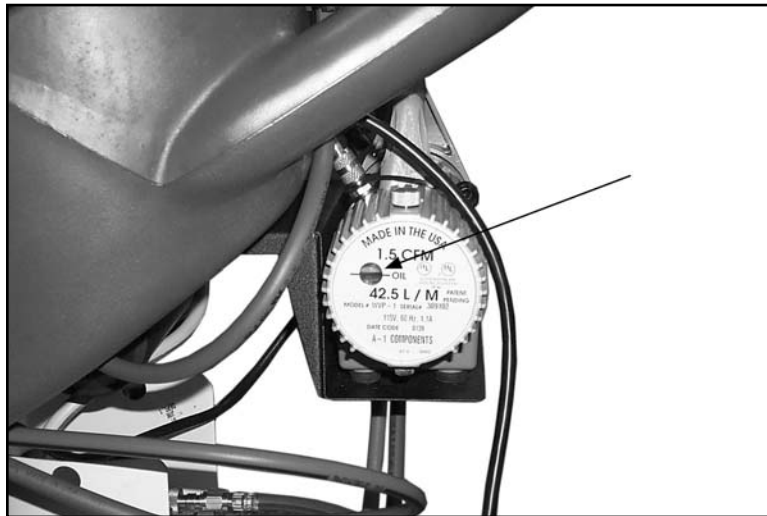

Figure 3-5: Oil Level Sight Glass
7. Pour the vacuum pump oil, from kit p/n EAK0227L01A, into the vacuum pump until the oil is visible halfway up the sight glass, refer to *fig 3-5*. The amount of oil is then approximately 4 oz.